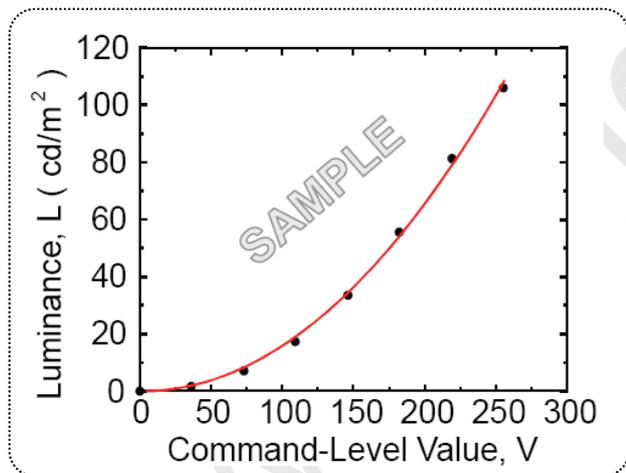
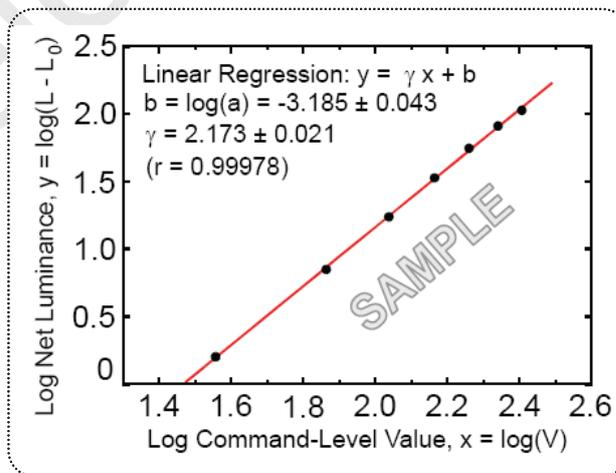

FIG.11 Sample Luminance vs. gray scale
FIG.12 Sample Log-log plot of luminance vs. gray scale
6. GSR is the rate of gamma shift at up, down, left and right 60 degree viewing angle compare with center gamma. For more information see FIG.11 and FIG.12 **(By EZ Contrast)**
The GAMMA we calculate from the log-log representation (FIG.11)